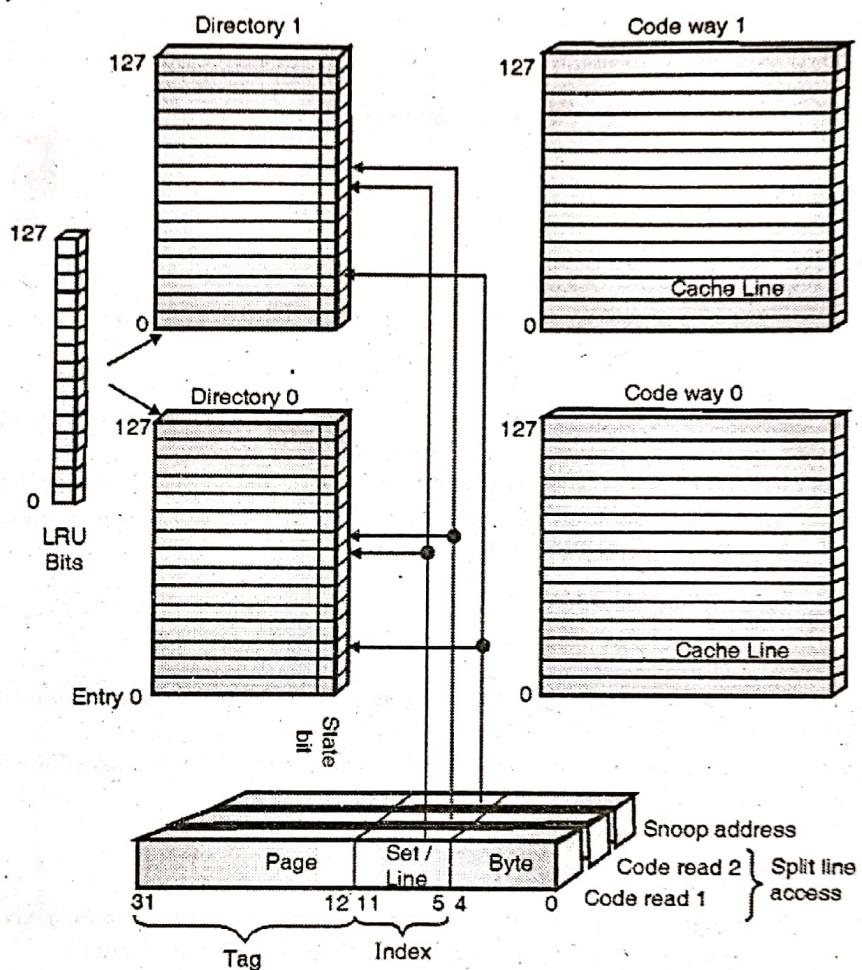

Fig. 1-Q. 2(b) : Pentium code cache organization
- The code cache is 8KB in size, organized as two-way set-associative mapping configuration. The cache ways are referred to as way zero and way one as shown in Fig. 1-Q. 2(b) and 2-Q. 2(b).